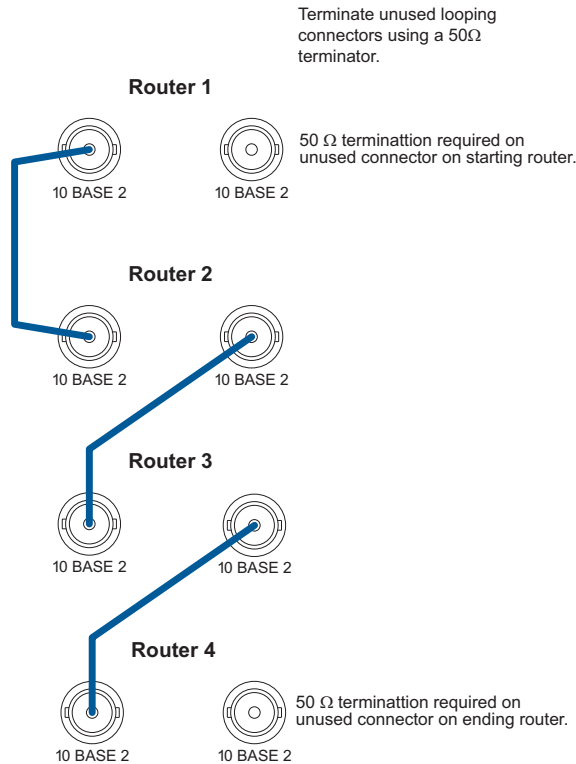

Figure 2-23. Control System Expansion Connections Between Routers
- 2 On **Router 1** (the router directly connected to the control system), connect to the *left* '10 BASE 2' connection using a 50Ω BNC connector and coaxial cable, as shown in Figure 2-23.
- 3 Connect the other end of the cable to the *left* '10 BASE 2' connection on **Router 2**, using a 50Ω BNC connector, as shown in Figure 2-23.
- 4 On **Router 2**, connect to the *right* '10 BASE 2' connection using a 50Ω BNC connector and coaxial cable, as shown in Figure 2-23 on page 62.
- 5 Connect the other end of the cable to the *left* '10 BASE 2' connection on **Router 3**, using a 50Ω BNC connector, as shown in Figure 2-23 on page 62.
- 6 On **Router 3**, connect to the *right* '10 BASE 2' connections using a 50Ω BNC connector and coaxial cable, as shown in Figure 2-23 on page 62.
- 7 Connect the other end of the cable to the *left* '10 BASE 2' connection on **Router 4**, using a 50Ω BNC connector, as shown in Figure 2-23 on page 62.